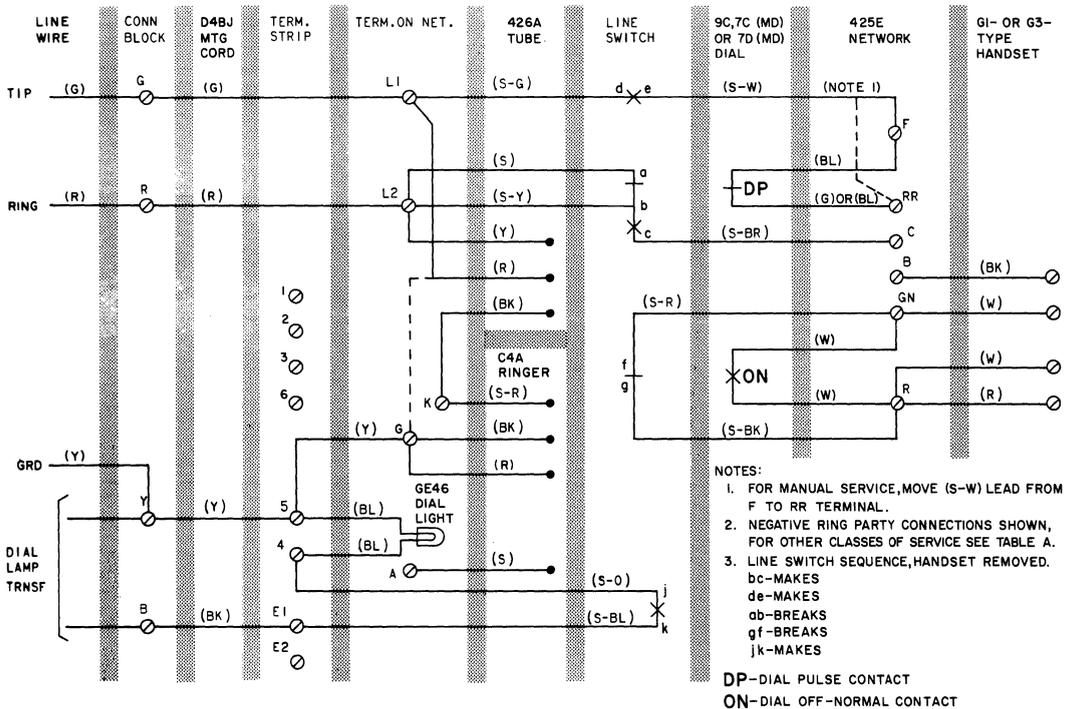

Fig. 1—501P (MD) Telephone Set, Connections
1.01 Reissued to add nontechnical changes to Fig. 1.